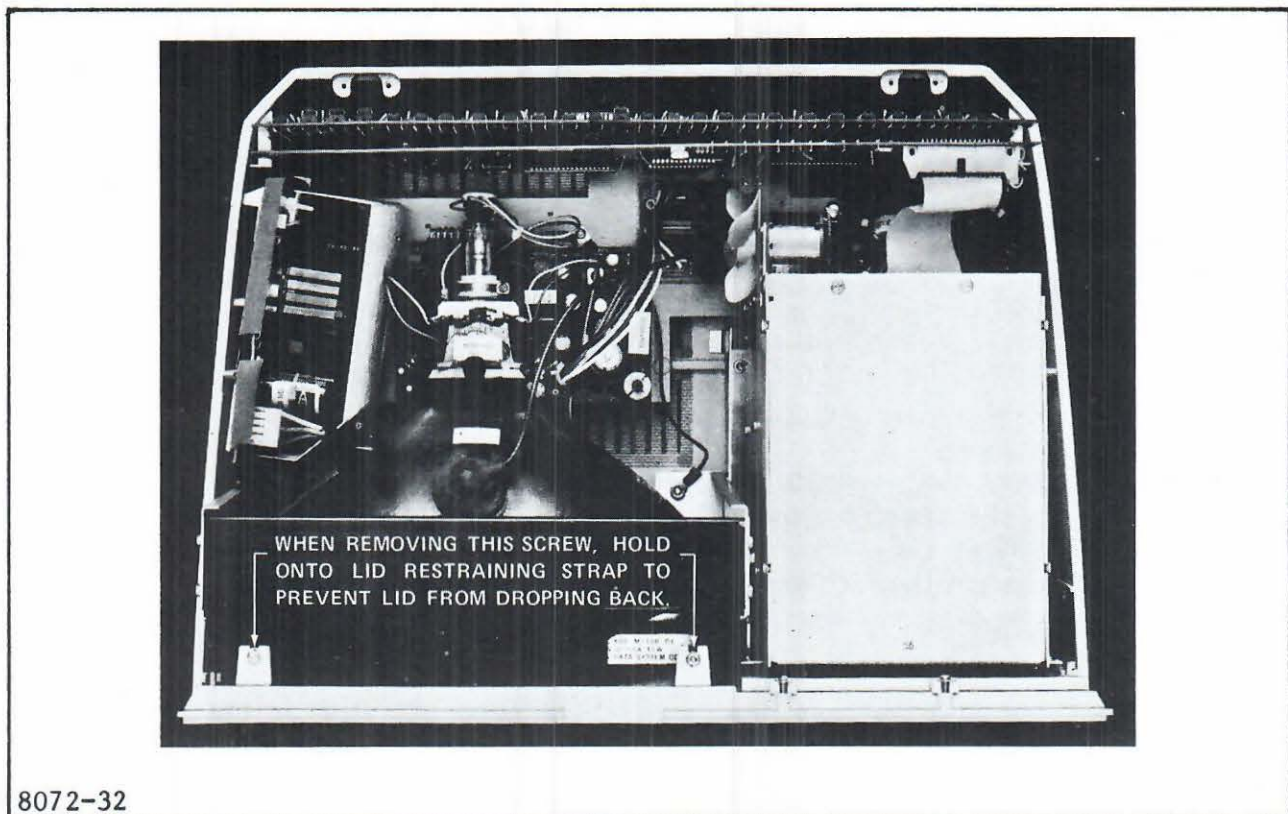

Figure 5-4. Chassis Top Securing Screws
9. Set the unit back on its base and remove the two screws that secure the chassis to the top of the cabinet (see figure 5-4).